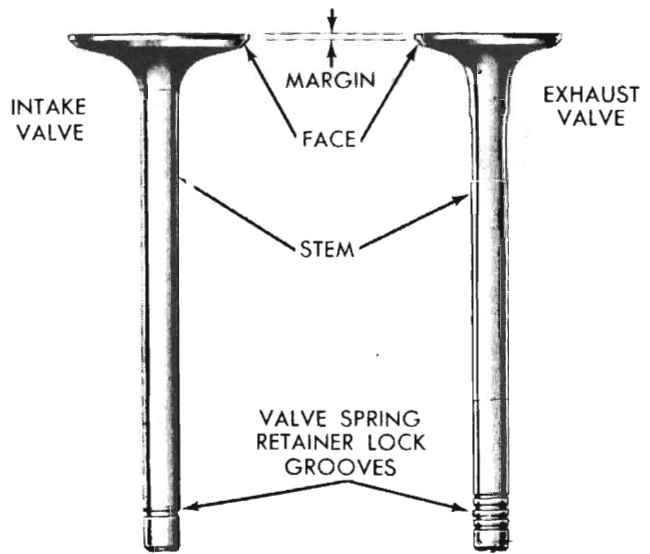

Fig. 15 - Intake and exhaust valves
(2) Inspect the remaining margin after the valves are re-faced (*Fig. 15*). Valves with less than 3/64" margin should be discarded.
(3) When refacing the valve seats, it is important that the correct size valve guide pilot be used for reseating stones. A true and complete surface must be obtained.
(4) Measure the concentricity of the valve seat using a dial indicator, The total run-out should not exceed .002" (total indicator reading). When the seat is properly positioned, the width of the intake seats should be .080". The width of the exhaust seats should be .050".
(5) Test valve contact on seat using a film of "prussian blue" on valve face, which is then oscillated 1/8" (while lightly contacting the seat) to obtain a mark, which should be central on valve face.